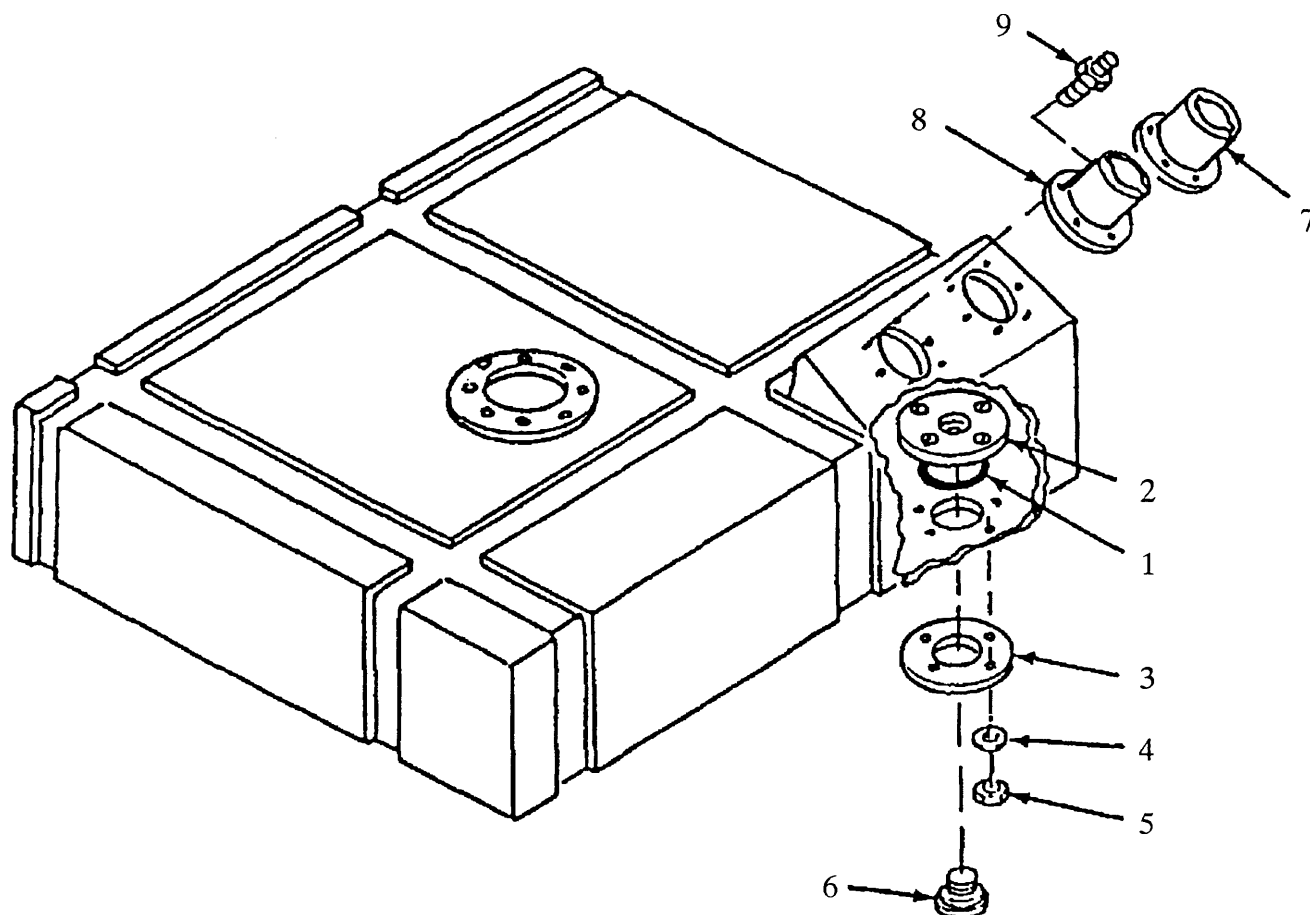

Figure 4-71. Fuel Tank Assembly
**4-35. FUEL TANK ASSEMBLY - continued.****d. Assembly (Refer to Figure 4-71)**
- (1) Install preformed packing (1)(Item 28, App H) and drain port (2).
- (2) Apply a thin coat of sealant primer (Item 16, App E) to washer ring (3) and mounting surface on bottom of fuel tank (4).
- (3) Apply Sealant (Item 6, App E) to washer ring (3) and bottom mounting surface of fuel tank (4).
- (4) Install washer ring (3), four flat washers (5) and four lock nuts (6).
- (5) Install drain plug (7).
- (6) Apply a thin coat of sealant primer (Item 16, App E) to bottom flange on fuel gage necks (8) and filler neck (9).
- (7) Apply sealant (Item 6, App E) to bottom flange on fuel gage neck (8) and filler neck (9).
- (8) Install fuel gage neck (8), filler neck (9) and twelve space adapters (10).